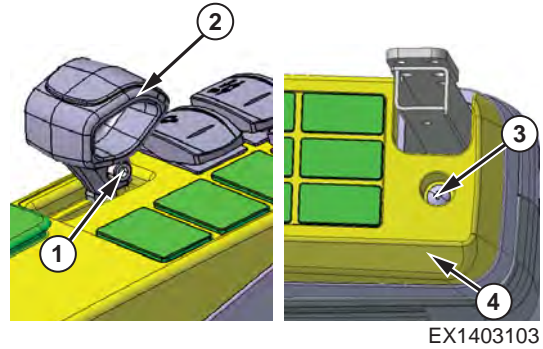

Figure 17 Stand LH
- D. Remove socket bolt (1, Figure 17) with grip (2).
- E. Remove screw (3) with cover (4) from stand upper cover, and disconnect the connector of harness which connect with switches.